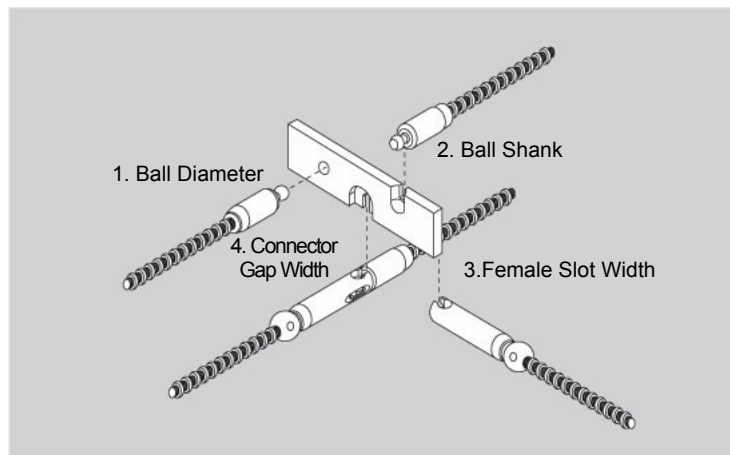

Figure 8 - No-Go gauge tests
- d. A final check of the control cable connector and source assembly connector is accomplished by use of a Model 550 NO GO gauge to check for significant wear on the connectors that would affect safety. Without using excessive force, check the following four positions (see Figure 8):